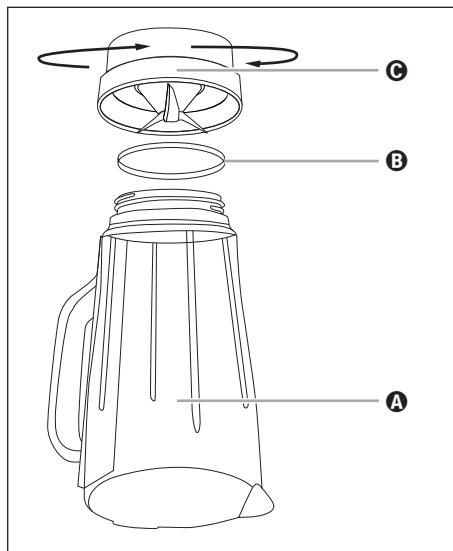

Fig. 4
- 2) Turn the appliance upside down and turn the plastic part **C** of the blender ③ anticlockwise so that it can be detached from the glass part **A** of the blender attachment ③ (see fig. 4).
- 6) If necessary, reinsert the sealing ring **B** into the plastic part **C** correctly. Then place the plastic part **C** of the blender ③ back on the glass part **A** of the blender ③ and turn the plastic part **C** clockwise.